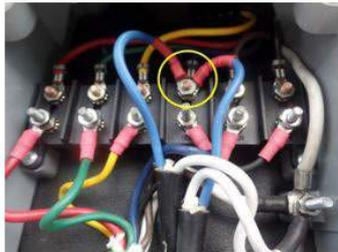

Figure 17: 7-Way Nose Box
- Check to see if the 7-way nosebox is equipped with circuit breakers (see Figure 17), as the problem may be a failing circuit breaker. Either replace circuit breaker with a new part or connect the blue wire from the Select Controller to the unprotected side of the circuit breaker. Circuit protection is provided by the 30 amp fuse inside the Select Controller.